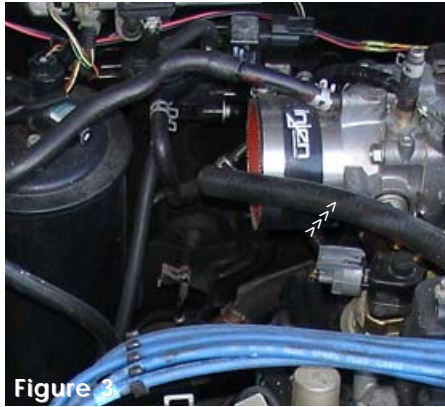

Figure 3
- 2- Insert the 3.00" straight hose over the throttle body and use two clamps. At this point only tighten the clamp on the throttle body side. (See fig. 3)